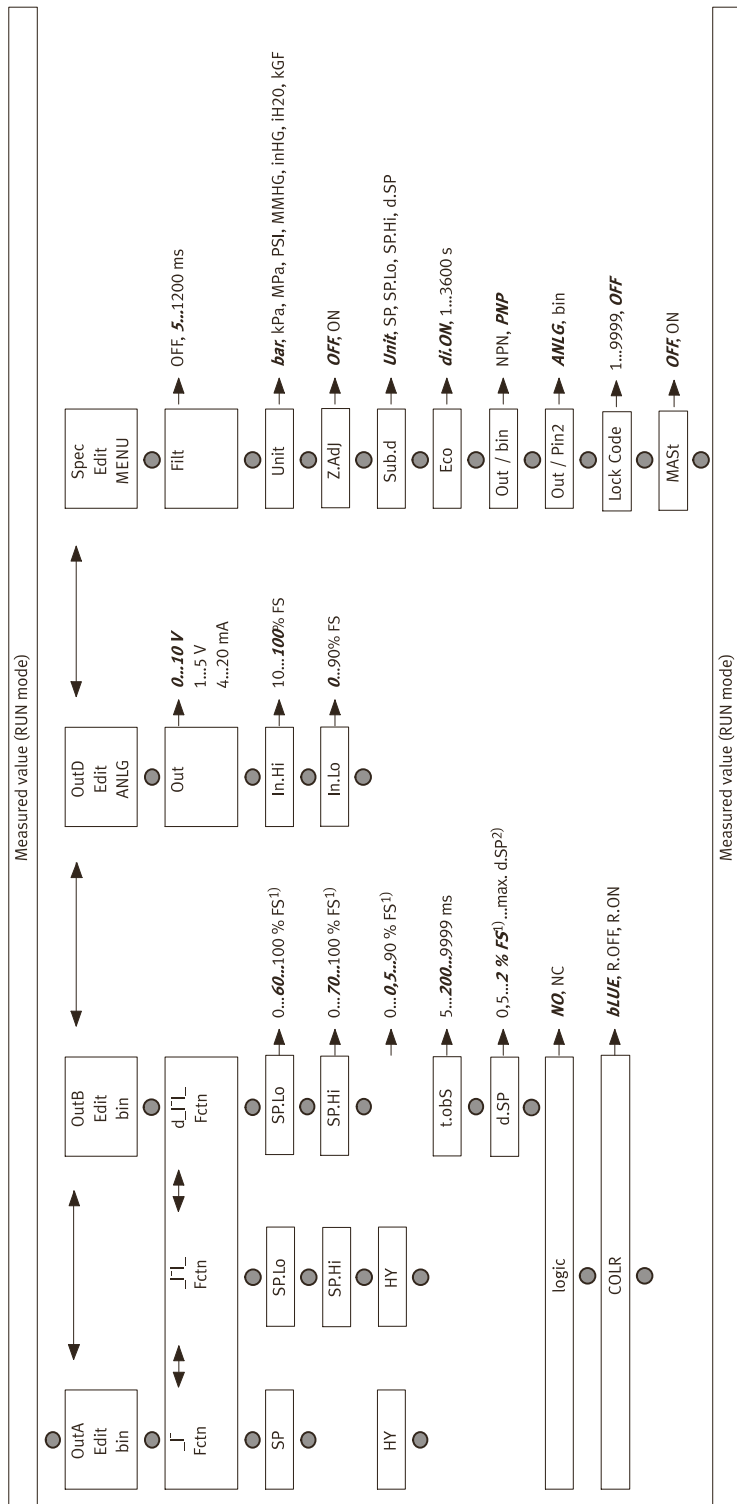

Fig. 7
The process is the same for configuring the switching outputs for OutA and OutB. In the following, the process is described using the switching output OutA. Menu structure → Fig.7
**Legend for → Fig.7**
↪ [Rsto PARM] appears. All parameters are reset to the factory settings → Fig.7